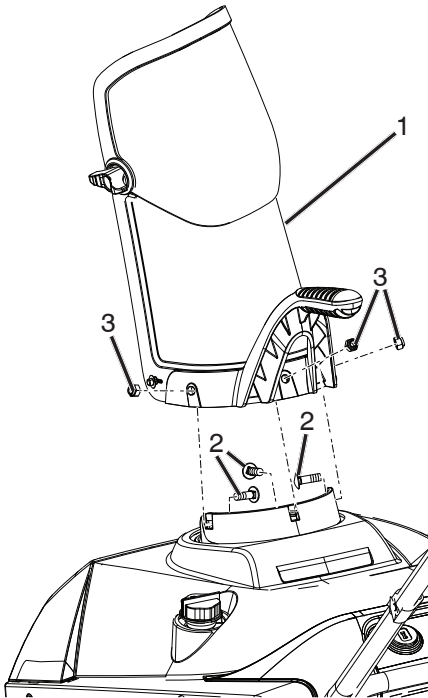

Figure 25
5. Remove the discharge chute and the discharge chute handle by removing the three carriage bolts and three flange nuts (Figure 25).